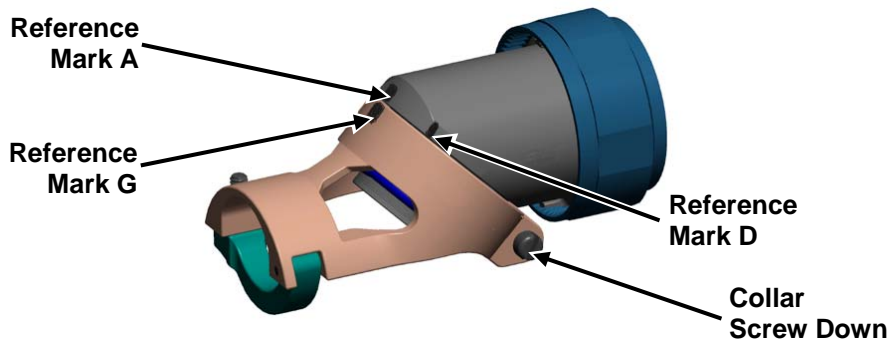

Figure 9. Straight Through (0°) Strain Relief Alignment
- a. Turn the collar screw on the strain relief down as shown in Figure 9, before matching the tabs on the backshell with the tab ways on the strain relief.
- c. If using 45° right, rotate strain relief (cw) to align the reference marks G to D. See Figure 9 and Table 2.
- d. If using 0° (straight through), rotate the strain relief counter clockwise (ccw) to align reference marks G to A, as shown in Figure 9. See Table 2.